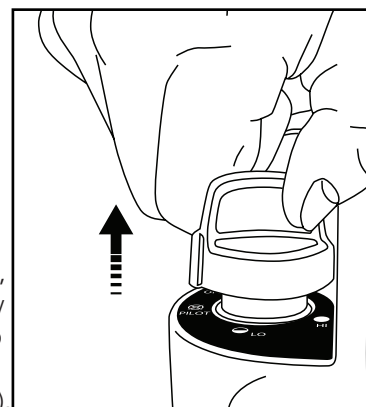

Figure 4: Release knob.
5. After pilot lights, hold down for 30 -60 seconds and then release knob. Knob should return to fully extended position. See Figure 4.
- After pilot lights, hold down for 30 -60 seconds and then release knob. Knob should return to fully extended position; see Figure 4. The pilot should remain lit.